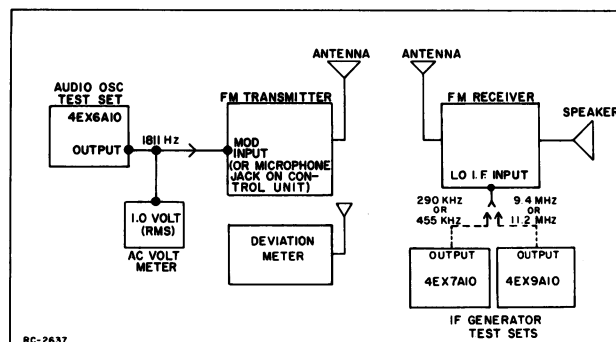

Figure 1
1. Make equipment connections as illustrated in Figure 1.